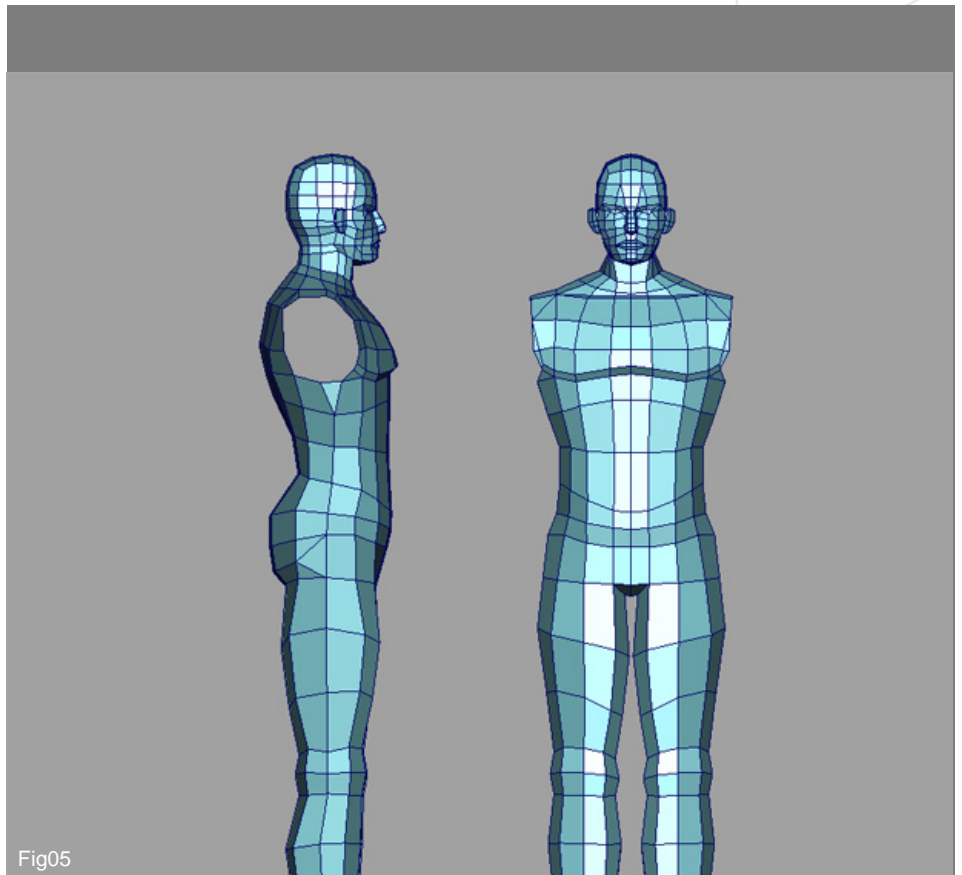

Fig05
5. Using the same technique extrude the edge downward in order to define the knees, calves and the ankles. We've added 6 more edges. Every one of them was shaped in accordance to the form we wanted to define (i.e. knee, calve and ankle Fig05).